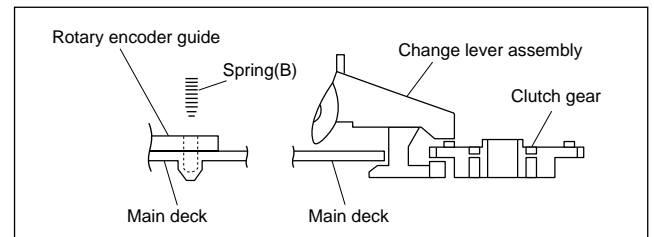

Fig. 2-2-12b
- (2) Let the spring (B) drops into the rotary encoder guide hole and install the change lever assembly. (Take care not to mistake a direction of the spring.) The point is to slightly lift the clutch gear and catch it from the both sides with the assembly. (See Fig.2-2-12b.)